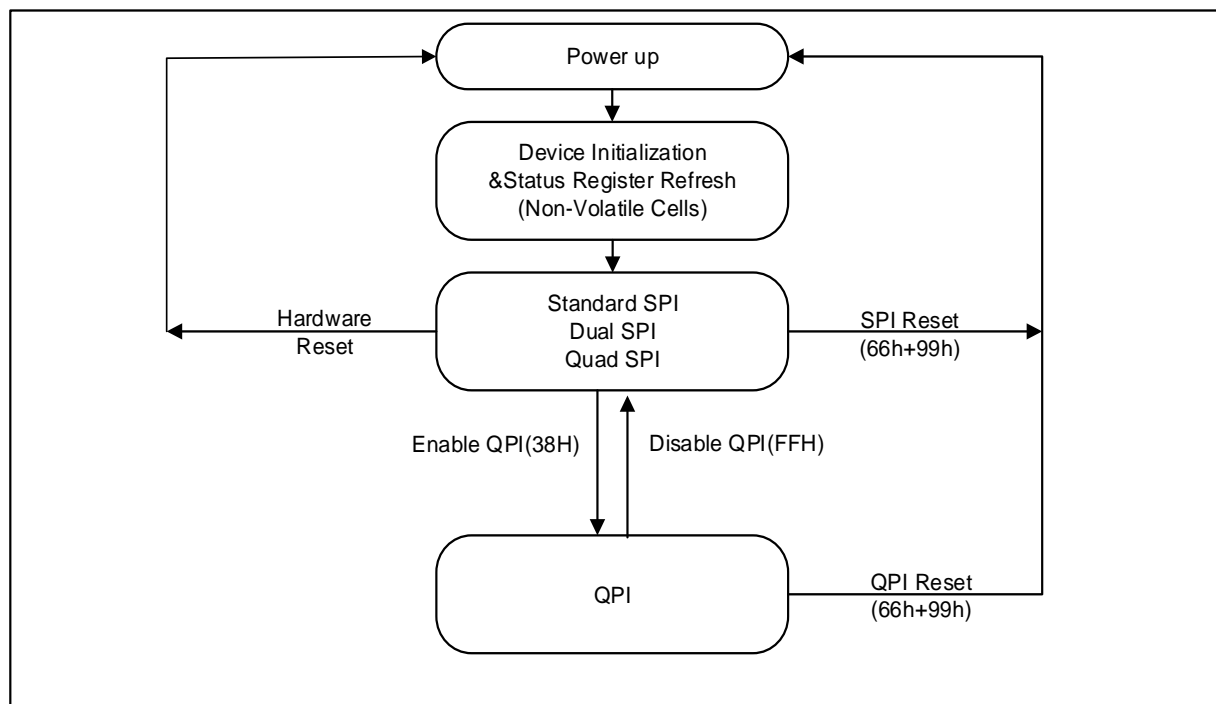

Figure 3. XM25LU128C Serial Flash Memory Operation Diagram
The XM25LU128C supports Quad Peripheral Interface (QPI) operations only when the device is switched from Standard/Dual/Quad SPI mode to QPI mode using the “Enter QPI (38h)” instruction. The typical SPI protocol requires that the byte-long instruction code being shifted into the device only via DI pin in eight serial clocks. The QPI mode utilizes all four IO pins to input the instruction code, thus only two serial clocks are required. This can significantly reduce the SPI instruction overhead and improve system performance in an XIP environment. Standard/Dual/Quad SPI mode and QPI mode are exclusive. Only one mode can be active at any given time. “Enter QPI (38h)” and “Exit QPI (FFh)” instructions are used to switch between these two modes. Upon power-up or after a software reset using “Reset (99h)” instruction, the default state of the device is Standard/Dual/Quad SPI mode. To enable QPI mode, the non-volatile Quad Enable bit (QE) in Status Register-2 is required to be set. When using QPI instructions, the DI and DO pins become bidirectional IO0 and IO1, and the /WP and /HOLD pins become IO2 and IO3 respectively. See Figure 3 for the device operation modes.